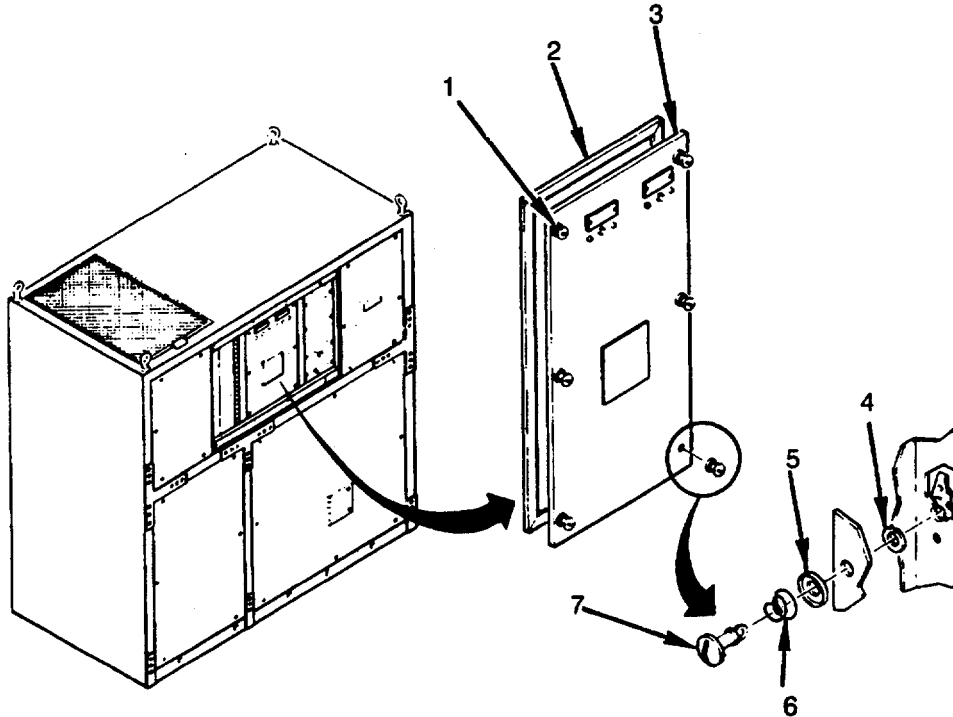

Figure 4-34. Left Electric Plate
1. Check that electric plate (3) is not bent, cracked, or punctured (see Figure 4-34).
2. Check that gasket (2) is not torn, loose, or missing.
3. Check that captive fasteners (1) are not damaged or missing.